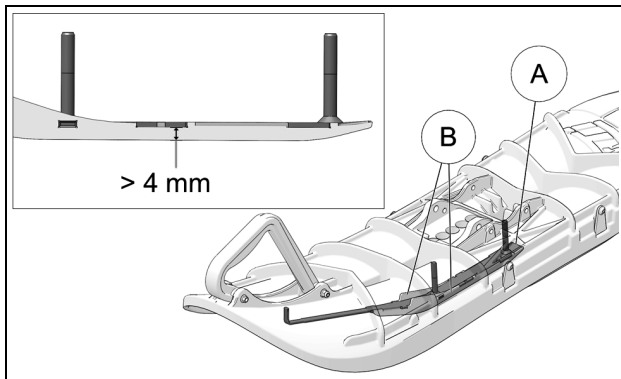

Figure 62
If the ski lacks support through turns on ice, check condition of the skag (A). If the blades (B) show deformations or are less than 4mm in height (8mm when new), they do not provide enough support. The skag should be replaced. See Figure 62.